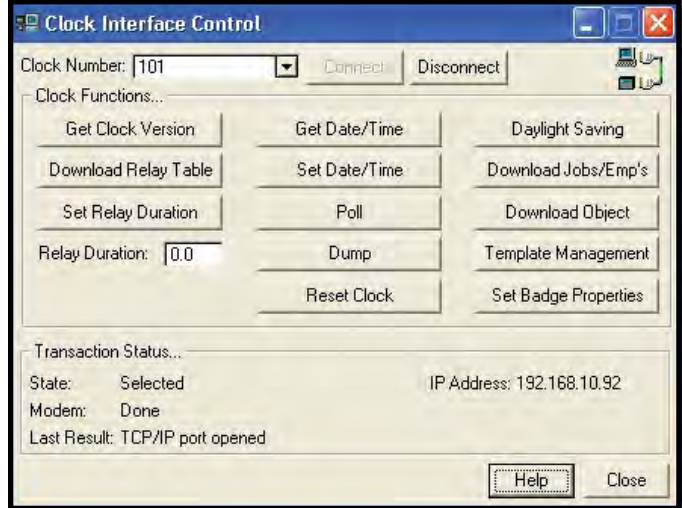

Figure 13. Out-of-the-Box™, Clock Interface window
- XIV. Select the clock number that corresponds to your direct connection and click the “Connect” button. If a successful connection to the Smart Clock is established, the buttons in the window should become active (see Figure 13). If the buttons do not become active, review over steps I - XI or contact Technical Support.